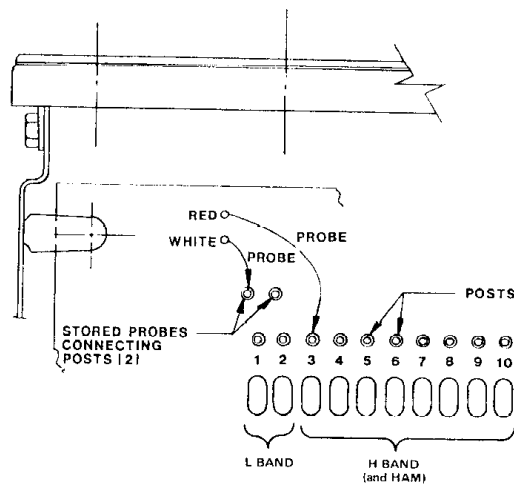

Figure 2
1. **Low Band (30-50MHz):** Leave bandswitch probes connected to their posts (Fig. 2). Then, install crystals in any order desired.
2. **Ham (146-148MHz) and High Band (148-174MHz):** Slide the red bandswitch probe over the post at Channel 1. Install crystals in any order desired. White bandswitch probe is not moved from its original position (Fig. 2).
Low/High (and Ham) Band Operation L/H: (Fig. 2)